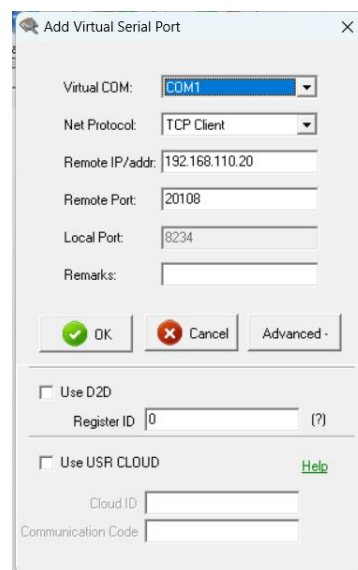

Figure 9.2 Virtual Serial Port Setting
- 2) Click “Add a Virtual Serial Port” and set it as shown in the figure 9.2, change the network protocol to TCP Server and set the local port to 5003: